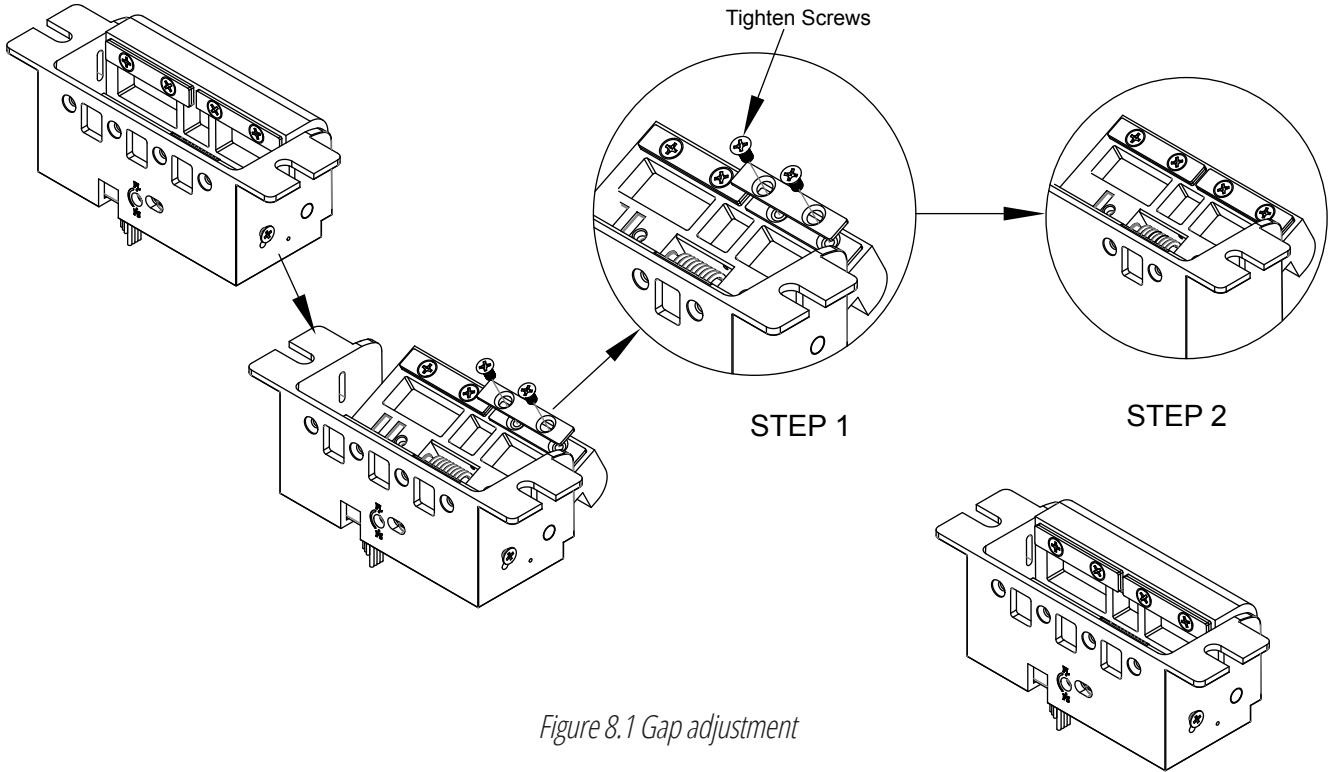

Figure 8.1 Gap adjustment
1. First loosen and remove the two set screws that secure the keeper shims (see Figure 8.1).